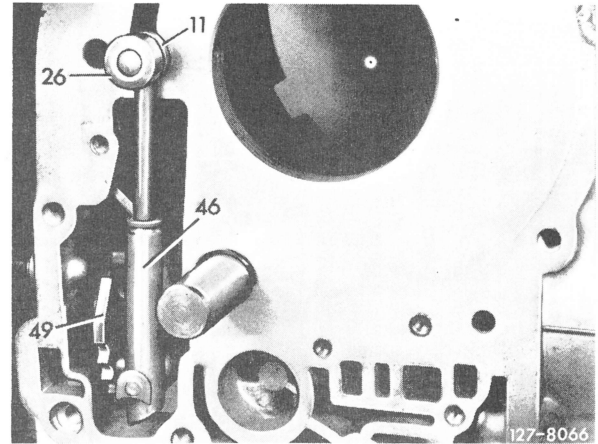
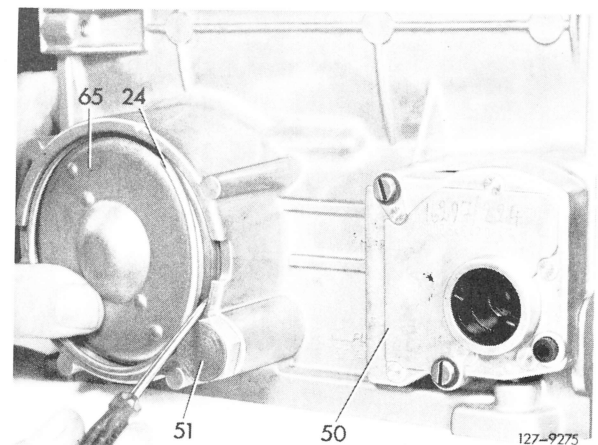
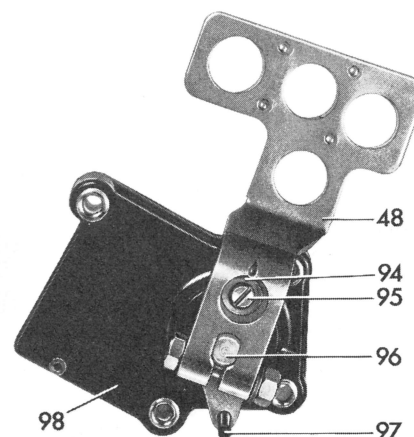

Fig. 21
Fig. 22
Fig. 30
**33** Remove elastic linkage (46) with roller (26) and washer (11) (Fig. 21).
**34** Unscrew clamping screw for detent plate (49) (Fig. 21).
**36** Pull out range selector lever with shaft and remove detent plate (49) from transmission case (Fig. 21).
**37** Remove starter lockout and back-up light switch (50) after loosening fastening bolts.
**38** Remove locking ring (24) and pull out cover (65) (Fig. 22).
**48** Insert detent plate (49 in Fig. 21) into transmission case. Introduce range selector lever (48) with shaft (96 in Fig. 30) into teeth of detent plate and tighten clamping screw to 10 Nm (1.0 kpm) (Fig. 21).
**49** Loosen adjusting screw (95) and introduce locating pin (97) (4-mm round material) through driver into locating bore in shift housing (Fig. 30 and 31).
**50** Tighten adjusting screw (95) and remove locating pin (97) (Fig. 30 and 31).